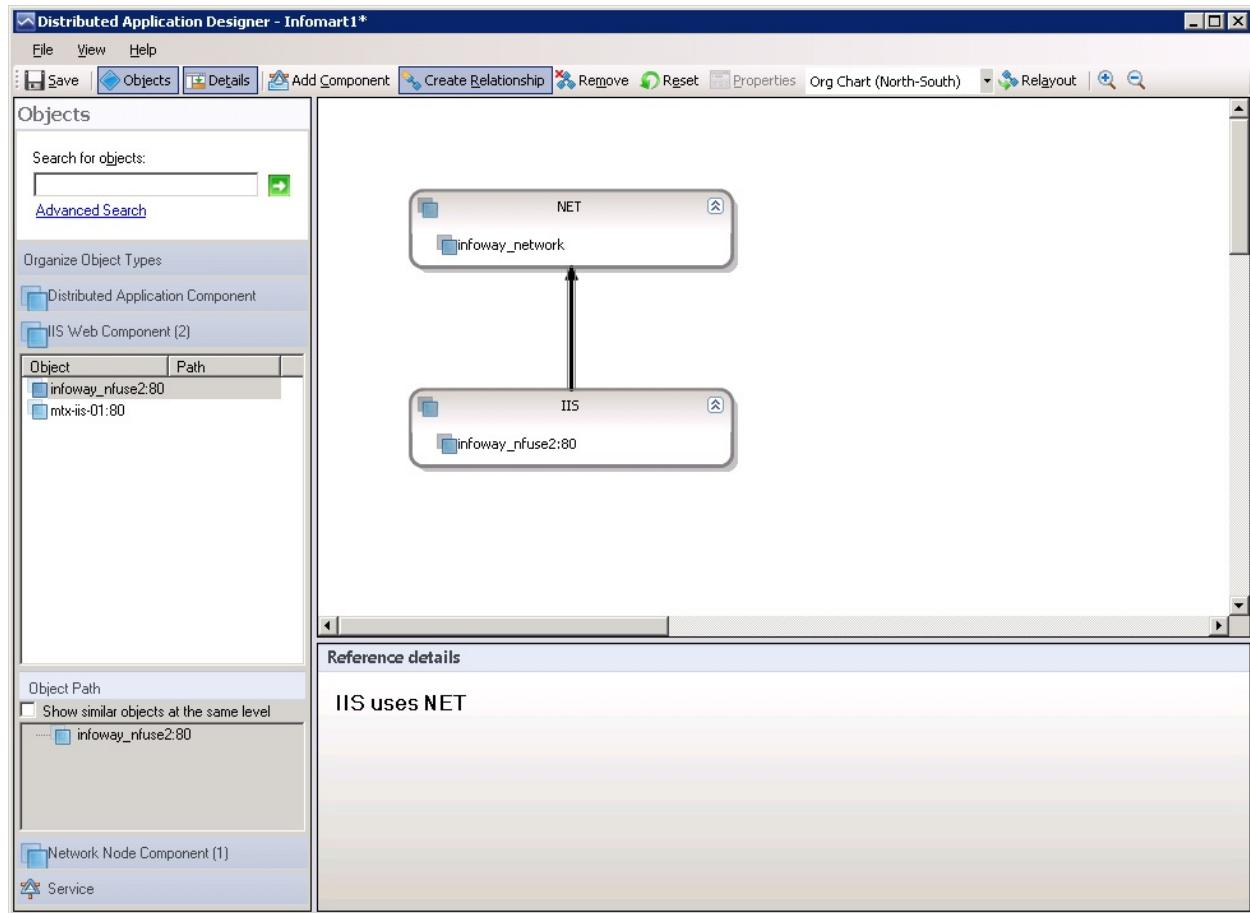

Figure 4.36: Creating a relationship between the IIS and NET components
- Now, proceed to create a relationship between the IIS web component and the Network node component. For this, click on the **Create Relationship** button in Figure 4.35, and then draw an arrow connecting the **IIS** box in the **Designer** window with the **NET** box, as depicted by Figure 4.36. Since **IIS** is dependent on the **NET** component in our example for its functioning, the direction of the arrow should indicate the 'Uses' relationship – i.e., the arrow head should face the **NET** component. Once done, you can look up the **Reference Details** section of the **Designer** window to know whether the intended relationship has been established between the two components. For instance, in the case of our example, if this section displays the message, **IIS** uses **NET**, it is a clear indication that your 'relationship configuration' is correct.